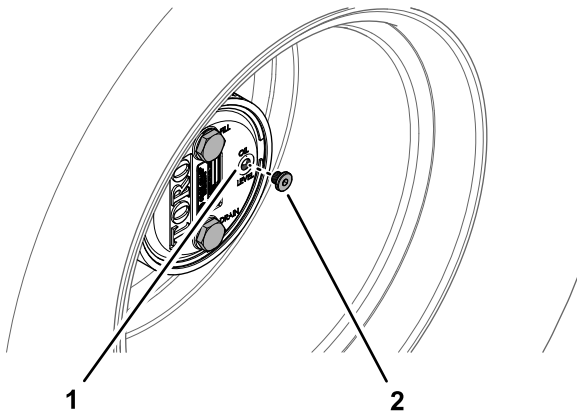

Figure 138
2. Remove the check plug at the 3 o'clock position (Figure 138).